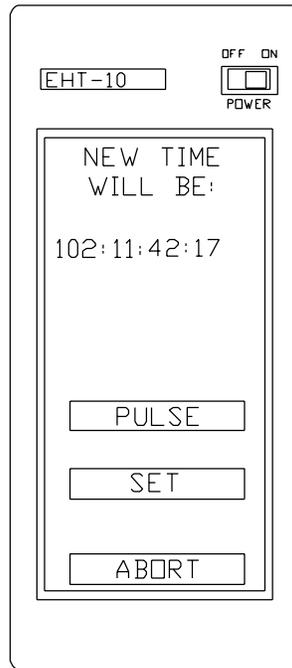

Figure 20 New Time Will Be Screen
- * To set the time for the DAS, press **Set Time** on the Time menu. FST displays a numeric entry screen; enter the desired time value. The hand terminal displays the New Time Will Be screen, as shown in figure 20.